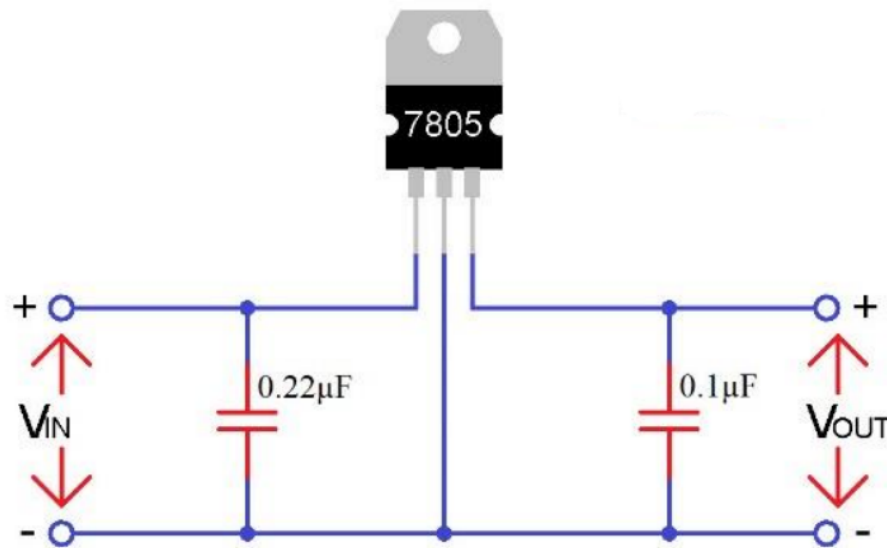

Figure 3: LM7805 Line Regulation
1. Design and build the circuit given in fig 3.